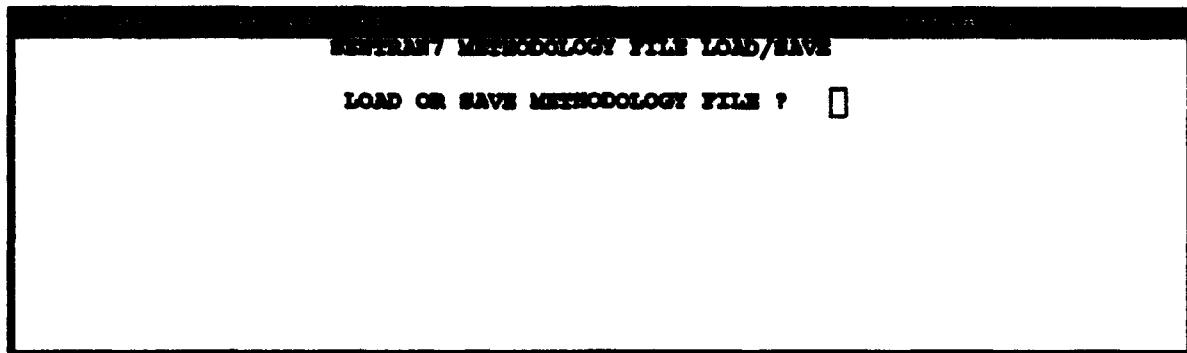

Figure 44. Screen Prompt for Specifying Use of the Load or Save Options
- 2) SENTRAN7 will prompt you to specify if you want to load or save a methodology file, as shown in Figure 44. In response to this prompt, enter 'load'.
- 7) In response to the prompt for "LOAD OR SAVE METHODOLOGY FILE", as shown in Figure 44, type 'save'. SENTRAN7 will prompt you for the name of the methodology file to create.